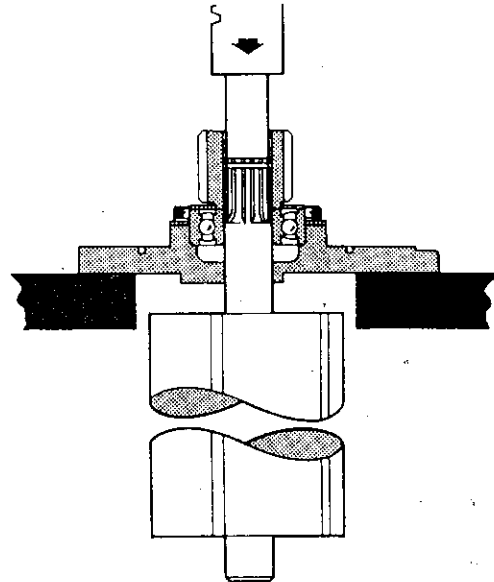

Figure 6.6
8. Heat the rotor and end plate assembly to approximately 350 degrees F (177 degrees C) for 1/2 hour to soften the Loctite on the rotor shaft. Support the rotor and end plate assembly and press the rotor shaft from the lower end plate and rotor pinion (45). See Figure 6.6. Remove Pinion.